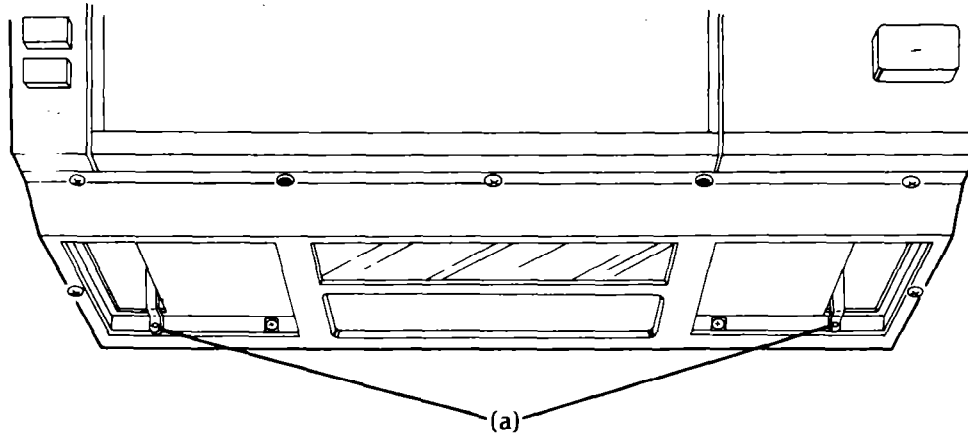

Figure 18
8. Screw hexagonal Phillips head screws to levers (inside grease filter opening) (**Fig. 18**).
9. Check that both levers (a) are securely fixed. If not, tighten screws (**Fig. 18**).